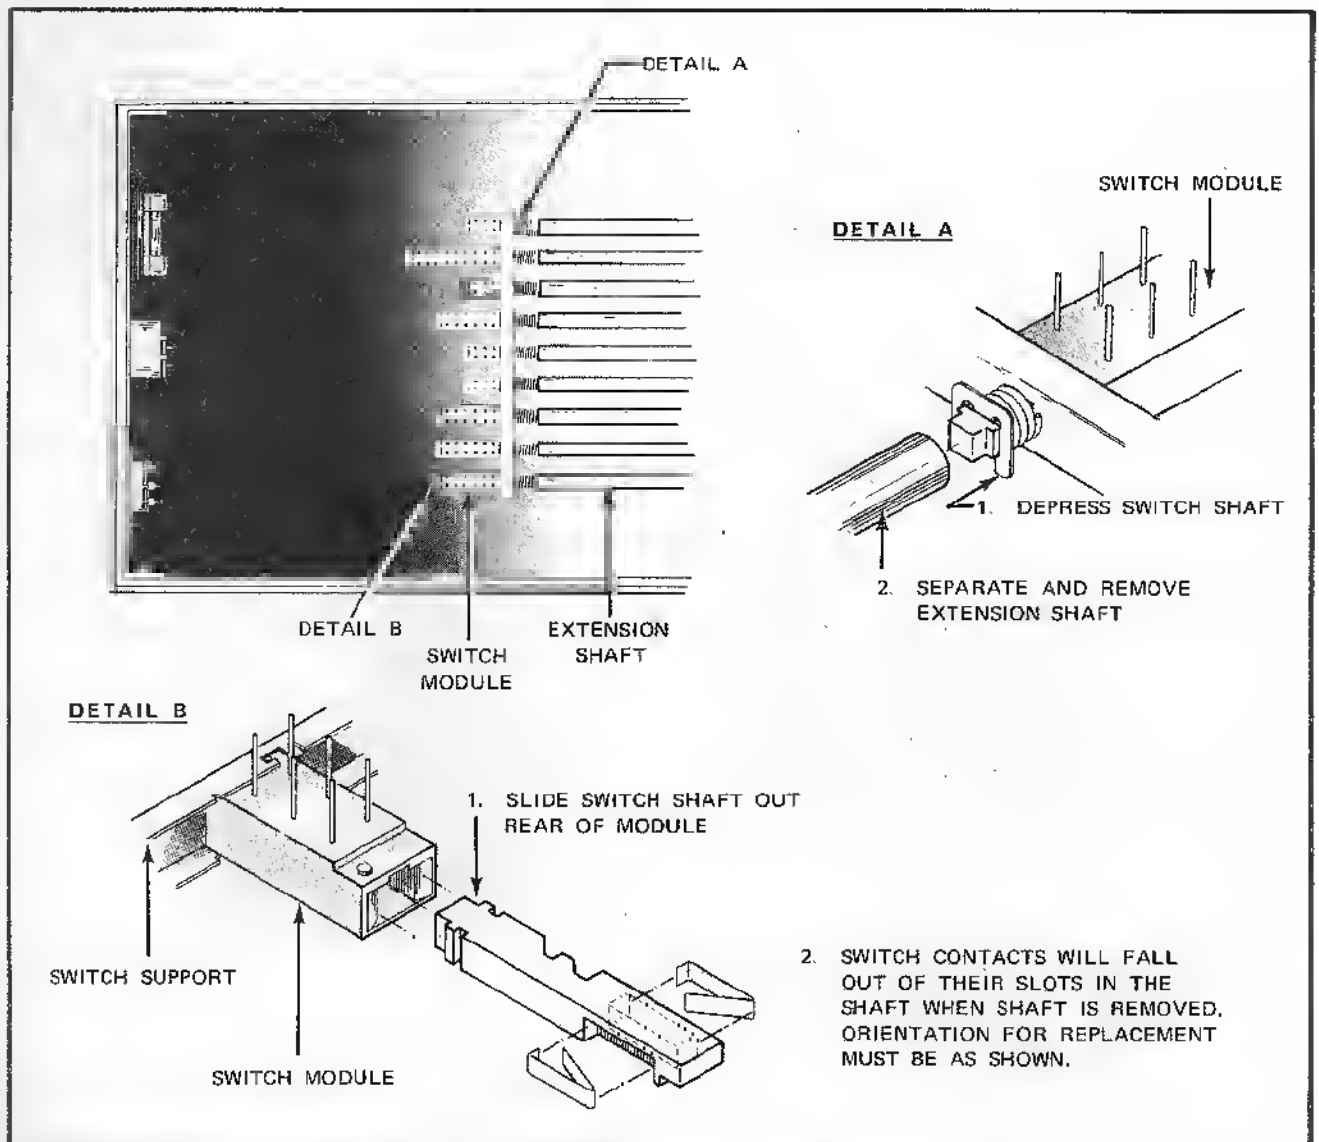

Figure 4.2. DISASSEMBLY OF REAR SWITCH MODULES
4-20. PROCEDURE NO. 1 - DISASSEMBLY OF REAR SWITCHES (Figure 4-2)
- a. Remove the extension shaft associated with the switch by depressing the switch shaft and removing the extension shaft as shown in Detail A, Figure 4-2.
- c. Remove the switch shaft by pushing it slowly out the back of the switch module. The moveable switch contacts will spring out of their slots in the shaft as this is done (see Detail B, Figure 4-2).
switch by depressing the switch shaft and removing the extension shaft as shown in Detail A, Figure 4.2.
the switch shaft is removed (see Detail B, Figure 4-2).